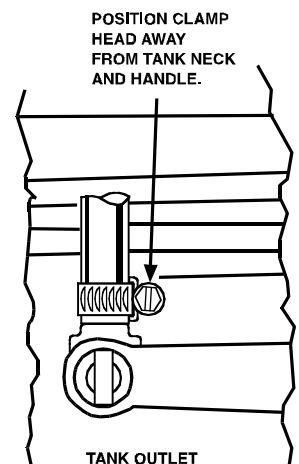

FIG. 6
Step 2. Hose at tank. See fig. 6
(D) Slide clamp into position shown in fig. 6.